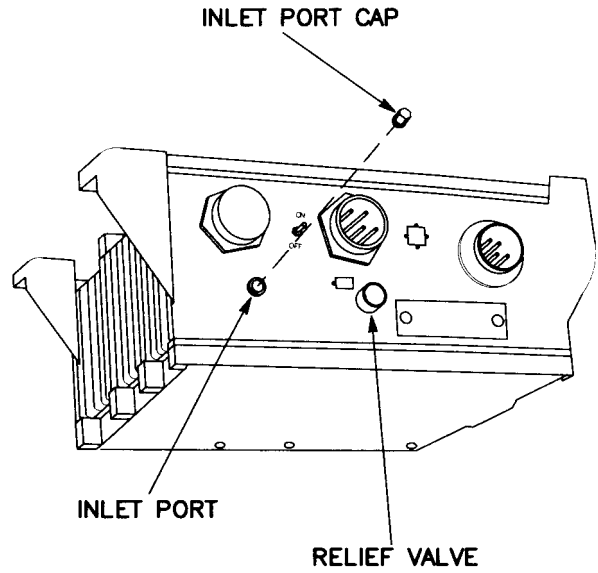

Figure 3-62 Power Converter
(4) Power Converter (fig. 3-62). Refer to para 3-13.i.(1) for procedures.